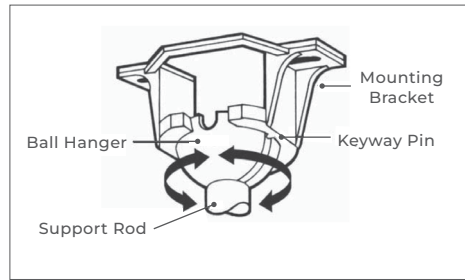

FIGURE 6
**A)** Notice the ball hanger is grooved on one side (Figure 6). This keyway fits over the small keyway pin on the inside of the mounting bracket and prevents the ceiling fan from spinning on the mounting bracket.